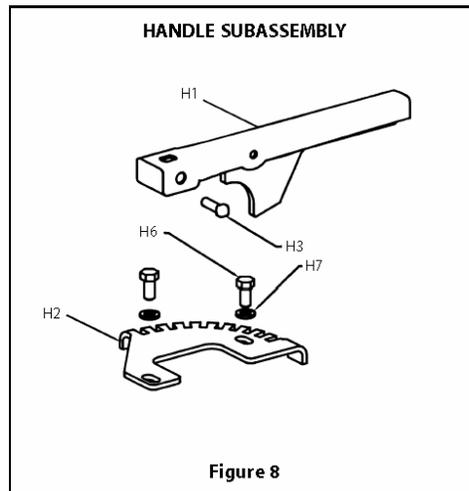

Figure 8
2. 2-1/2" thru 6" (DN 65 thru 150) Valves - To ensure proper handle/shaft engagement, the handle must be mounted on the shaft such that it rests on the bottom of the shaft blade. (See Figure 8.)